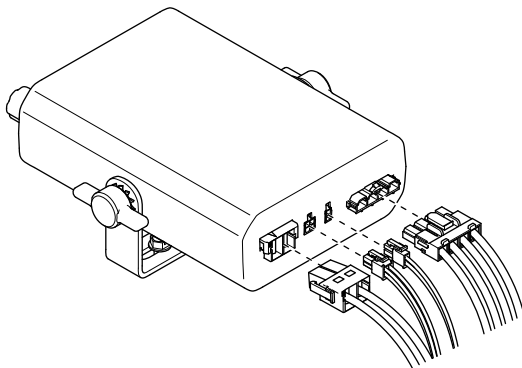

Figure 12
3. Connect the wire harness controller connectors to the controller (Figure 12).